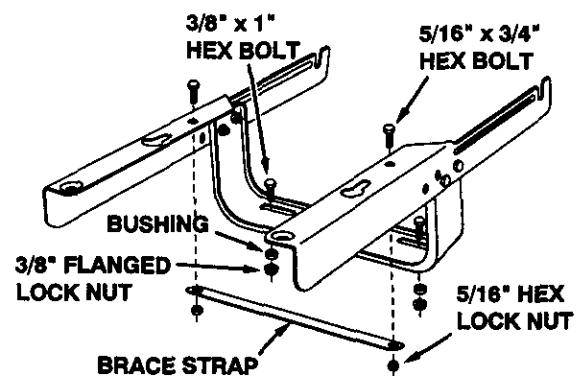

FIGURE 5
- Assemble the brace strap to the mounting brackets using two 5/16" x 3/4" hex bolts and 5/16" hex lock nuts. **Do not tighten yet.** See figure 5.
- Assemble two 3/8" x 1" hex bolts, bushings and 3/8" flanged lock nuts to the slots in the hitch bracket. **Do not tighten yet.** See figure 5.
- **Tighten** the two bolts (assembled in figure 5) which fasten the brace strap to the mounting brackets. The strap keeps the frame at the correct alignment width when removing and reattaching the frame and the tool box.